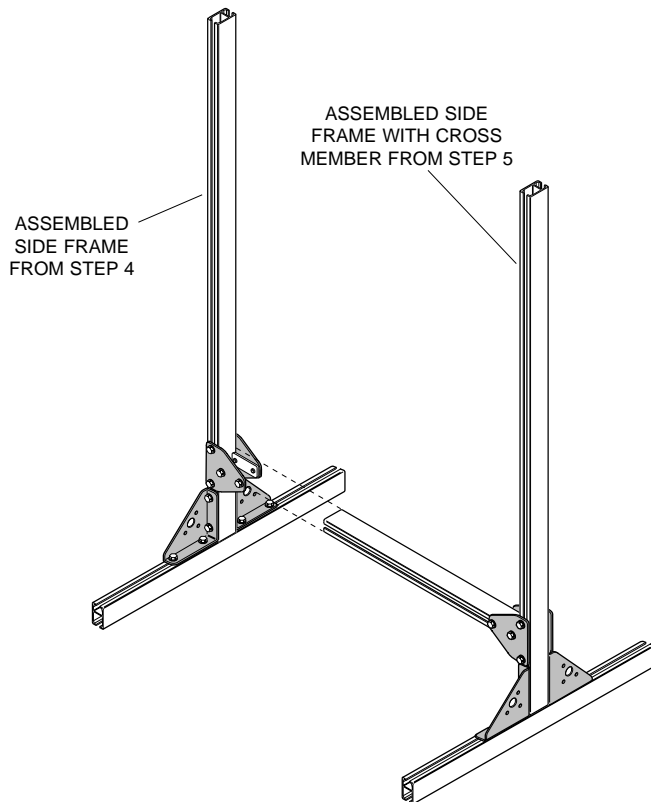

Figure 6.
- Stand assembly upright and attach other side frame (Fig 6). Square unit and securely tighten all bolts.